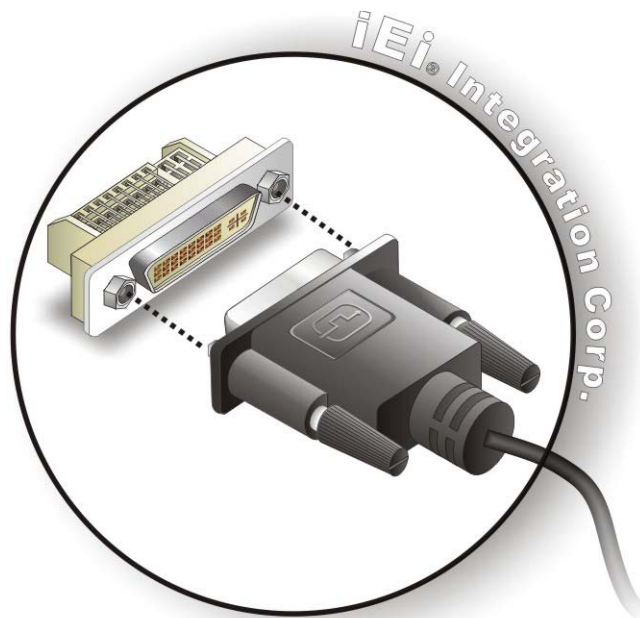

Figure 4-14: DVI Connector
- Step 3: Insert the DVI-I connector** Once the connectors are properly aligned with the male connector, insert the male connector from the digital display device into the female connector on the IMBA-Q670. See Figure 4-14.